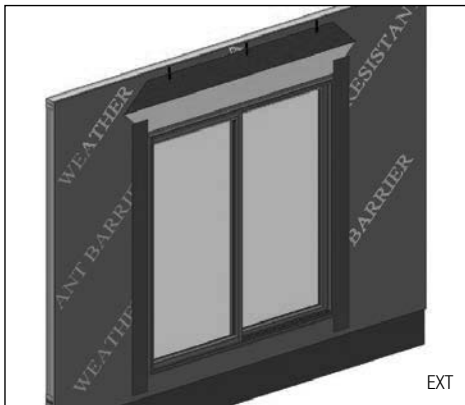

FIG. 15
- Cut and apply side flashing. Side flashing should run from the bottom of the sill flashing to 4" above the rough opening. (Fig. 15)